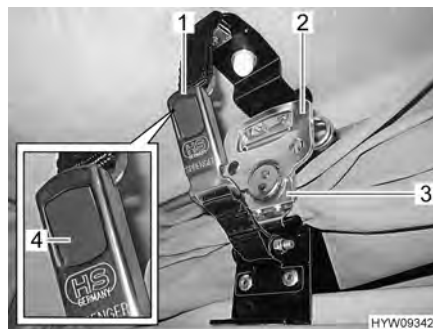

Fig. 32 Lock (elevating roof)
- Open the snap lock (Fig. 32,1) on both sides. In order to do this, press the grey tongue (Fig. 32,4).
- On each side, fold out the handle (Fig. 32,2) of the quick-action turnbuckle (Fig. 32,3) and turn a quarter turn in an anticlockwise direction. Thus, the lock is released.